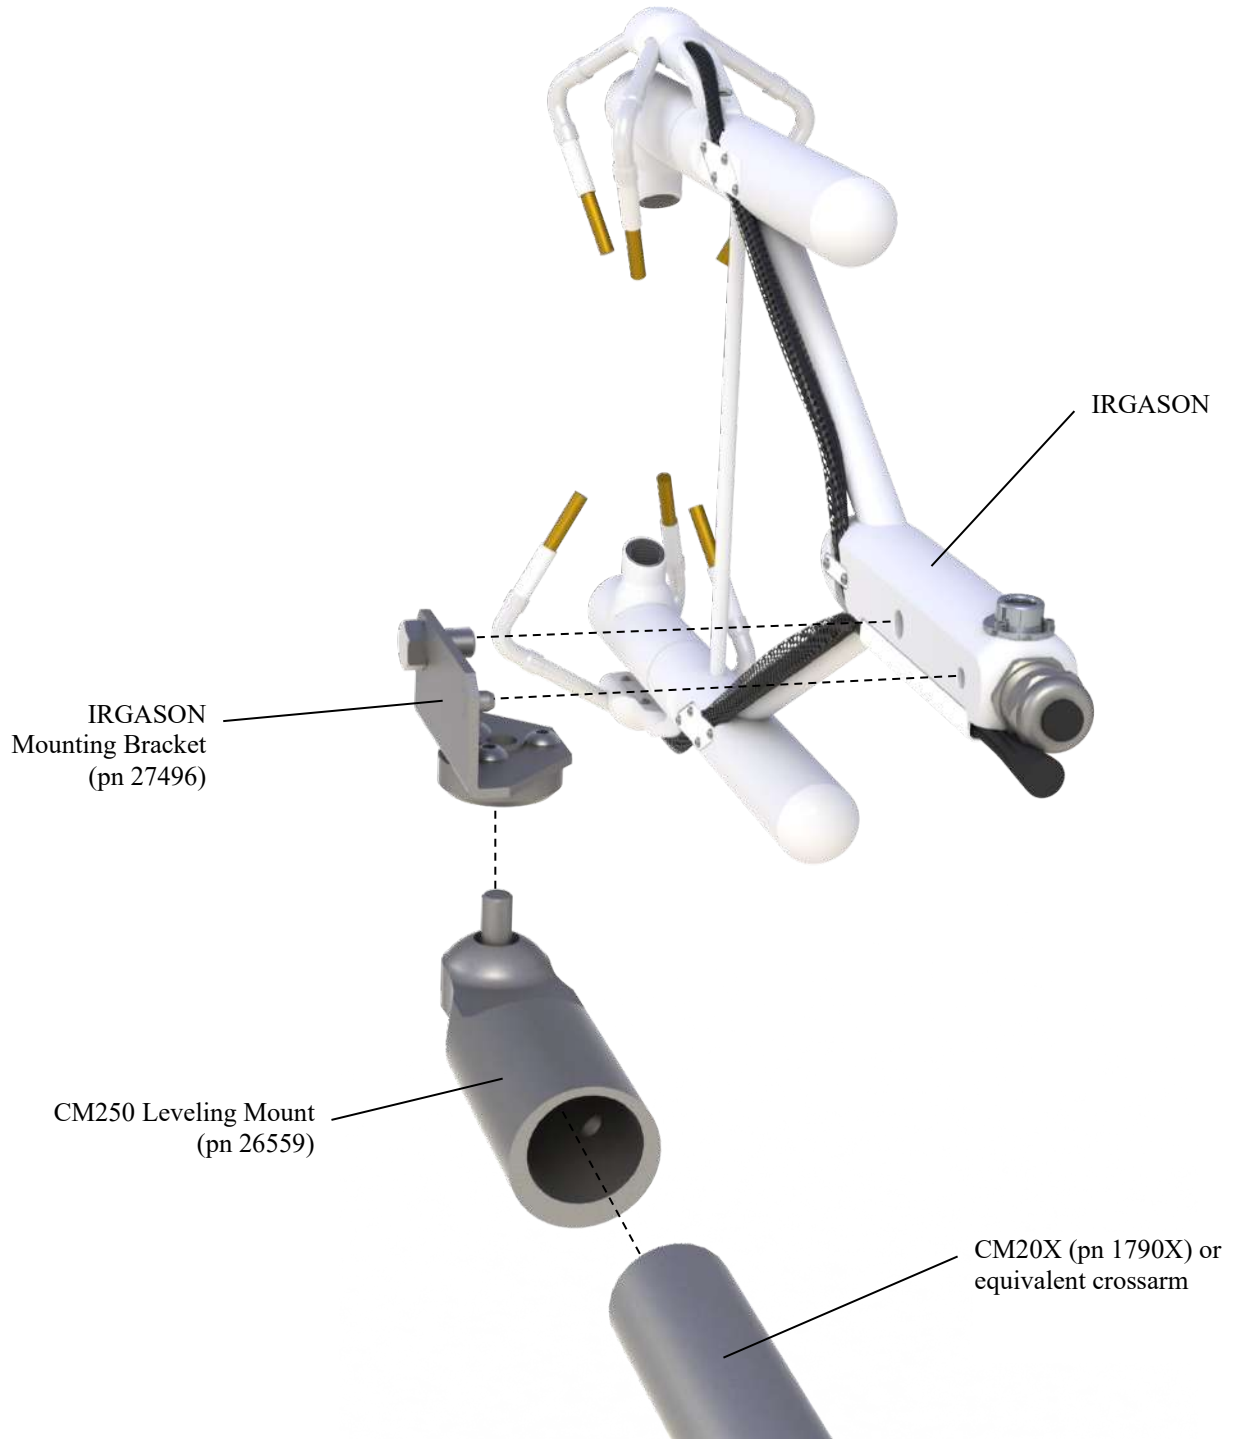

FIGURE 6-1. Exploded view of mounting the IRGASON
The IRGASON is supplied with mounting hardware to attach it to the end of a horizontal pipe with a diameter of 1.3 in., such as the Campbell Scientific CM202, CM204, or CM206 crossarm. The following steps describe the normal mounting procedure. Refer to FIGURE 6-1.
3. Bolt the IRGASON mounting bracket (pn 27496) to the CM250 Leveling Mount (pn 26559) (see FIGURE 6-1).